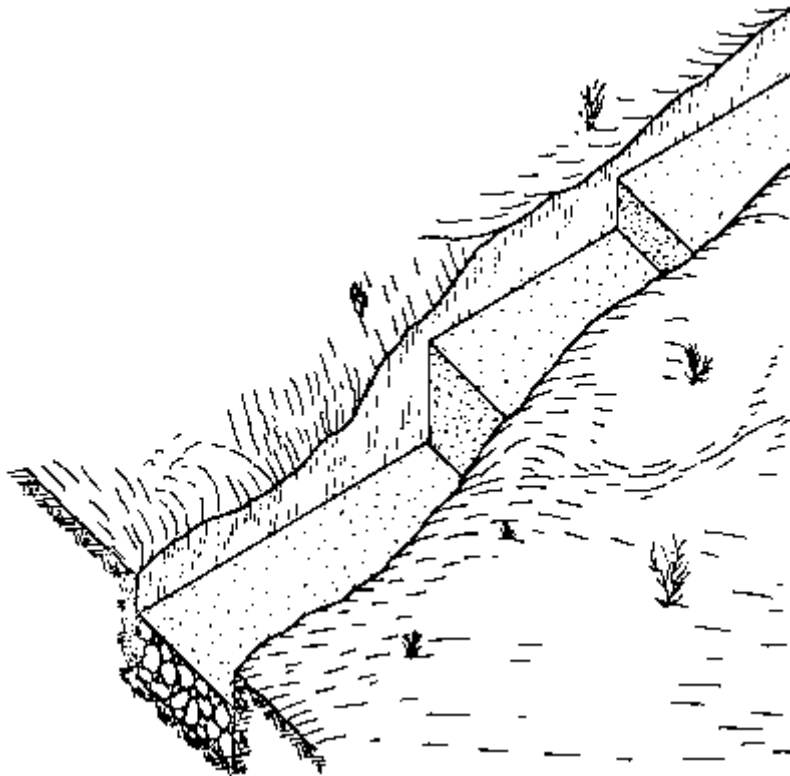

Fig. 4
- STEPPED FOUNDATION: On sloping sites the so-called stepped foundation must be used, which is in fact just a special form of the strip foundation (Fig. 4).